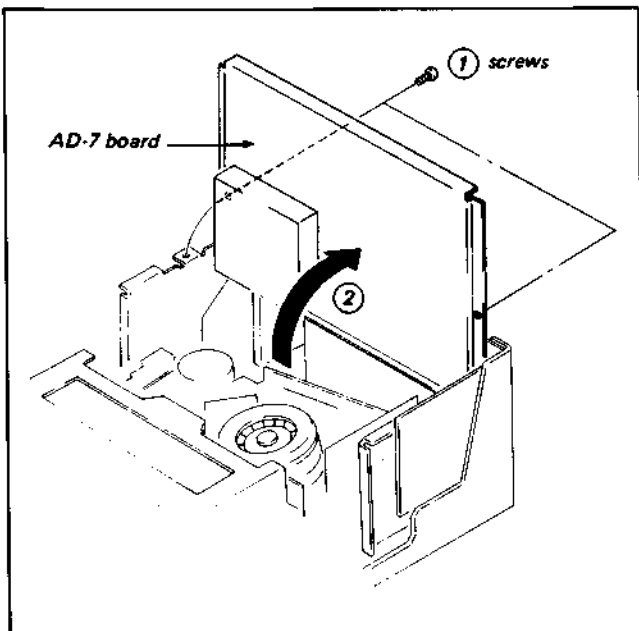

Fig. 1-4c. AD-7 board removal
6. AD-7 Board Removal (See Fig. 1-4c)